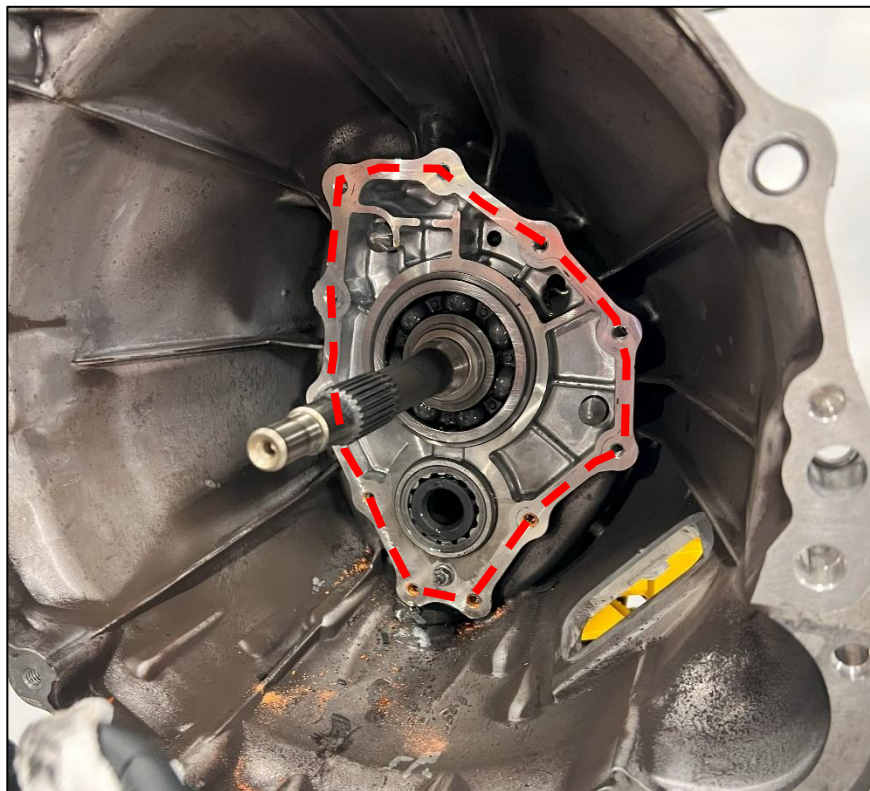

Figure 3
20. Clean the mating surface for the new Z1 Transmission Front Cover Gasket. *Figure 3*.